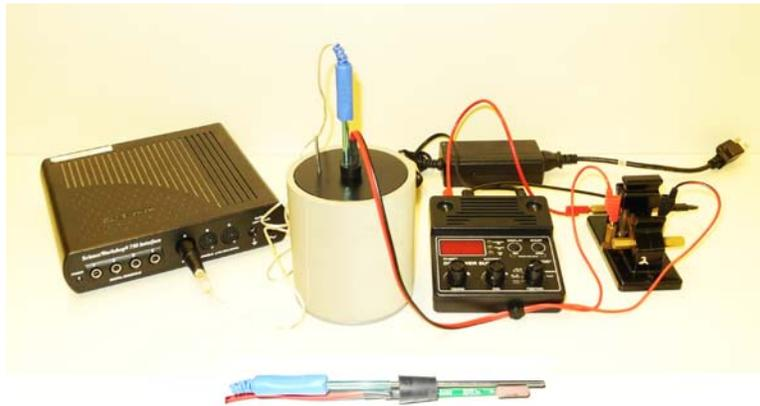

Figure 1. Apparatus and setup for performing the Joule equivalent of electrical energy experiment..
The apparatus is shown in Figures 1 and 2 and consists of (1) an assembly with resistive heating coil, stirrer, and electrical connector posts, (2) a double-wall aluminum calorimeter, (3) a low voltage, high current power supply with a digital voltmeter and ammeter, (4) electrical leads, (5) a digital multimeter, and (6) a Pasco 750 Science Workshop data acquisition system with temperature sensor.